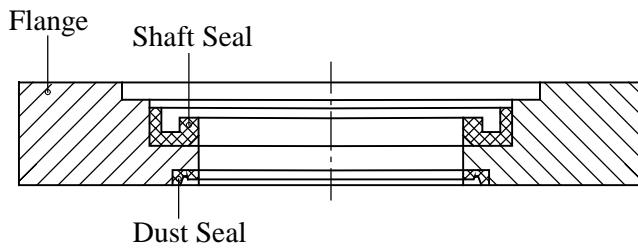

Fig.5
10. Remove with screwdriver Dust seal and Shaft seal from flange (see Figure 5). Work from outer side for both seals.